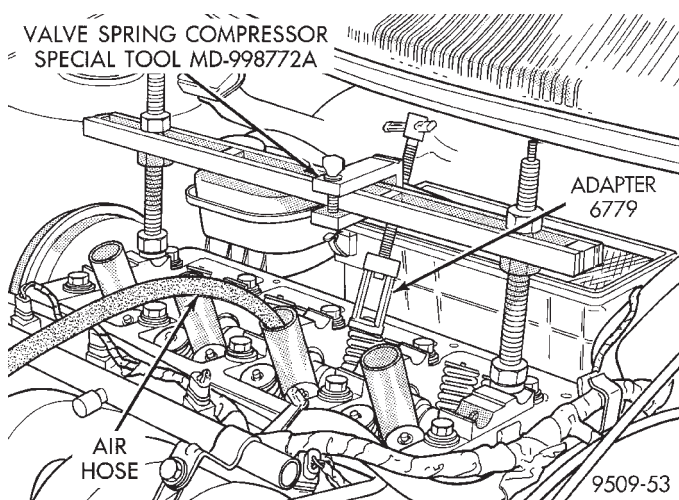

Fig. 19 Removing and Installing Valve Spring
- (1) Remove rocker arm shaft assemblies as previously outlined in this section.
- (2) Rotate crankshaft until piston is at TDC on compression.
- (3) With air hose attached to adapter tool installed in spark plug hole, apply 90-120 psi air pressure.
- (4) Using Special Tool MD-998772A with adapter 6779 (Fig. 19) compress valve springs and remove valve locks.